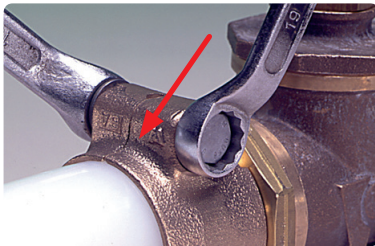

Figure 4-32: Tighten the Fitting
- Tighten the WIPEX fitting slowly by hand to avoid thread problems when assembling acid-resistant stainless steel bolts in a screw joint. If using a tightening machine, only use a low number of revolutions. Use open-ended or ring spanners and slowly tighten until the pads of the clamping sleeve are in contact with one another (see Figure 4-32).